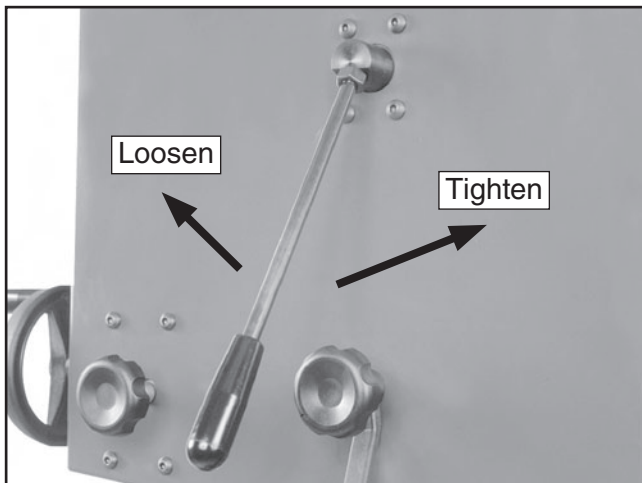

Figure 14. Quick release tension lever.
1. Loosen blade tension by rotating the quick release tension lever clockwise as shown in **Figure 14**.